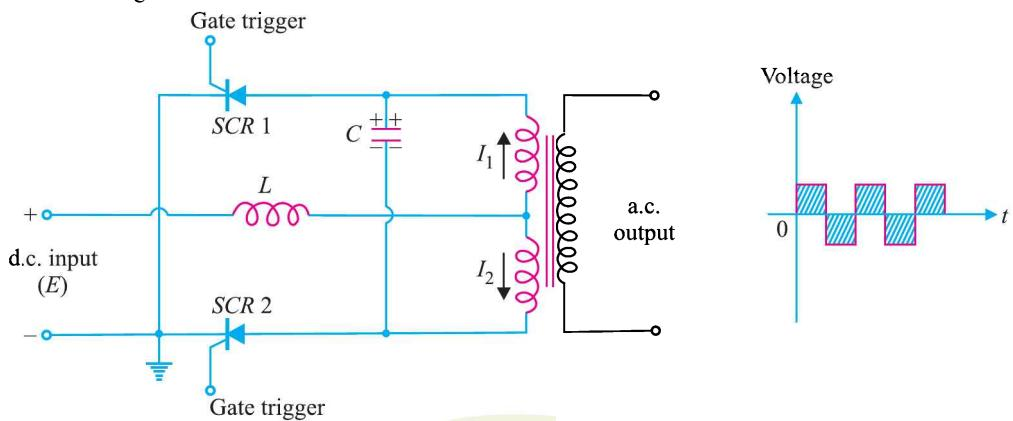

Fig. 20.18
with SCRs, whose gates are triggered by an external pulse generator, we get the practical SCR inverter as shown in Fig. 20.18.
- When trigger pulse is applied to the gate of SCR 1, this device will conduct and SCR 2 will turn off by the process just described. In this way, SCR 1 and SCR 2 alternately turn *ON* and *OFF*. Consequently, a.c. output is obtained as shown in Fig. 20.18.